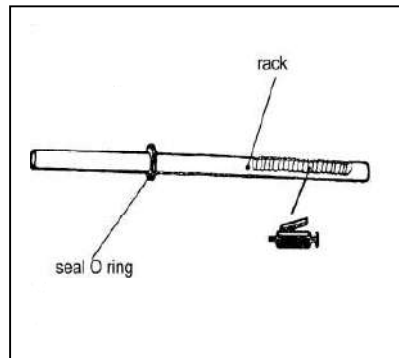

Fig 17-35
3) RACK ASSEMBLY INSTALLATION(See fig 17-35)